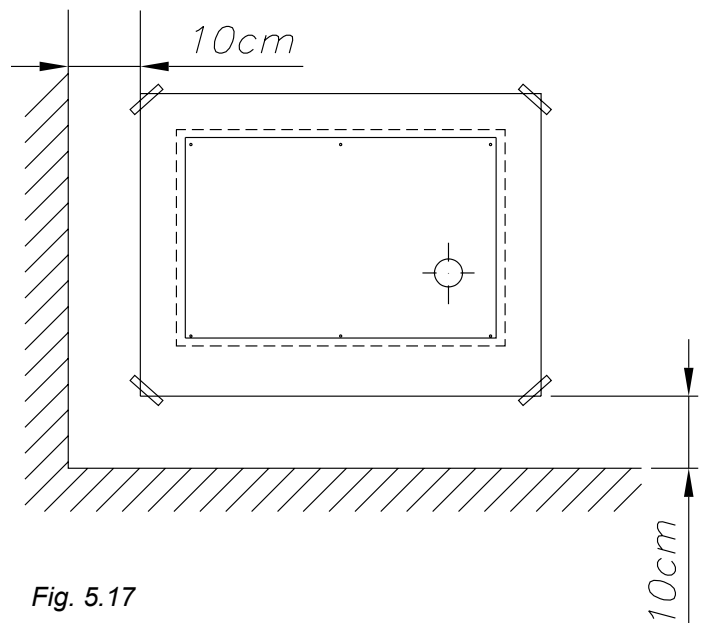

Fig. 5.17
1. Position the assembly frame on the wall and fasten it using sticky tape at a minimum distance of 10 cm from the floor perfectly squared (See fig. 5.17). Trace and drill the hole required for flue gas exhaust with a 2% inclination towards the outside of the wall if possible (See fig. 5.17).